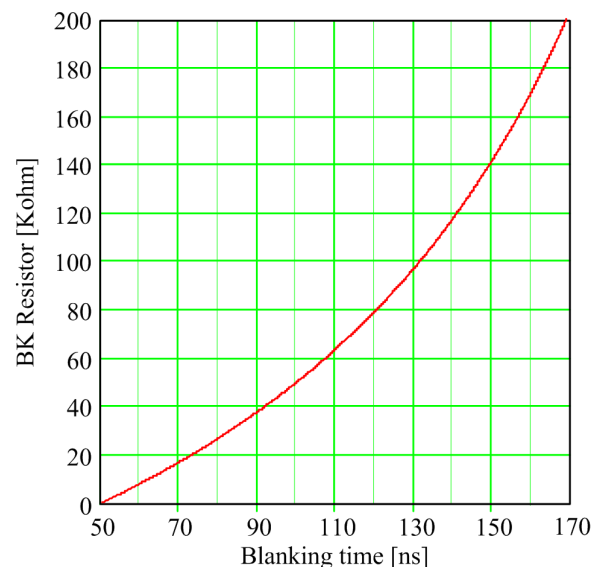

Figure 2: Blanking time vs. BK resistor value
Connecting an external resistor (R_{BK}) between the BK pin and ground will increase the blanking time as shown in Figure 2.
Connect the blanking timer pin (BK) to GND to program the device for the fastest reverse comparator response time of 160ns typical. To increase the blanking time, connect the BK pin to GND via a resistor to avoid the fault response to short reverse current pulses. Refer to Figure 2 in the reverse comparator functional description for resistor values versus the reverse blanking time.